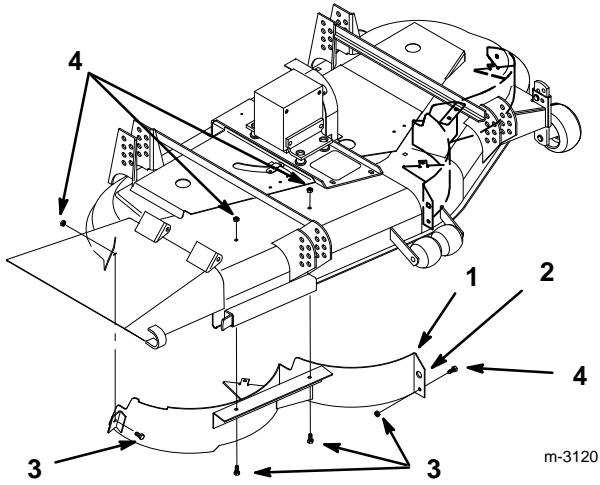

**Figure 7**
2. Remove hairpin cotter and pin to change hole location (Fig. 7).
3. Select a hole position so the gage wheel is  $3/8"$  (9.5 mm) off the ground for the height-of-cut to be used (Fig. 7).